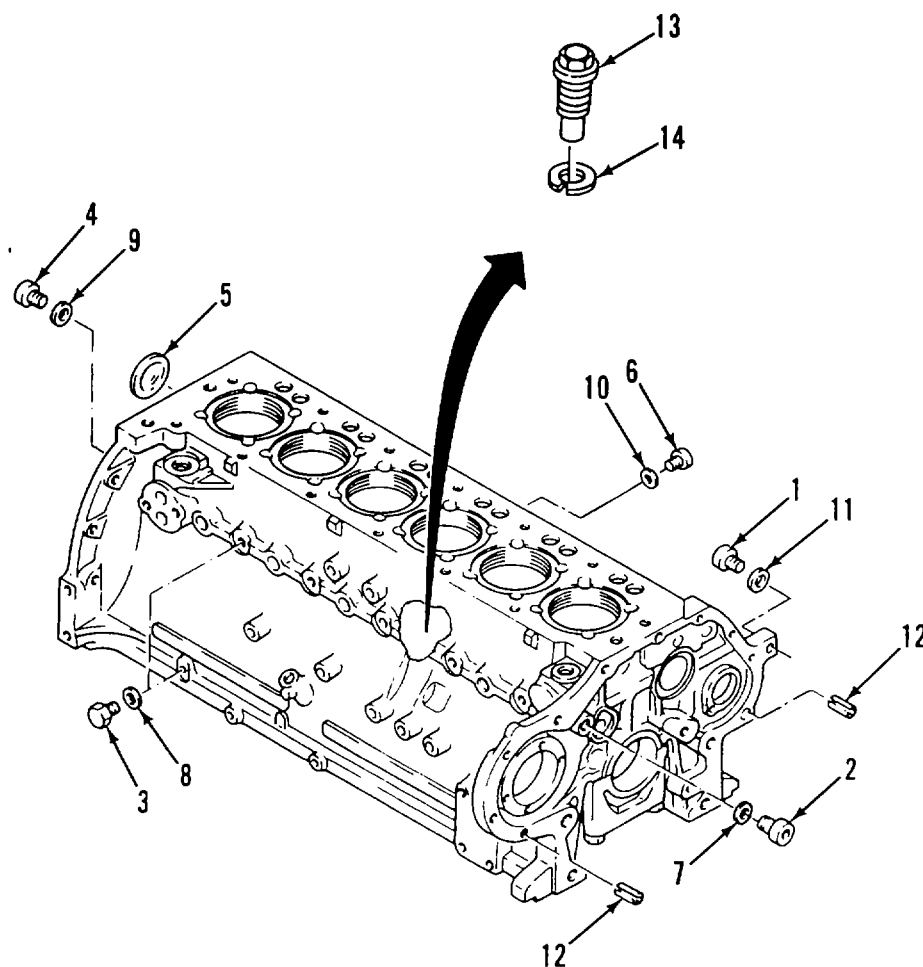

Figure 4-21. Crankcase
a. DISASSEMBLE. (Figure 4-21)
- (1) Remove plugs (1, 2, 3, 4, 5, and 6) and sealing rings (7, 8, 9, 10, and 11).
- (2) Remove clamping bushings (12).
- (3) Remove piston cooling nozzle (13) and lockwasher (14) (for piston pin cooling).